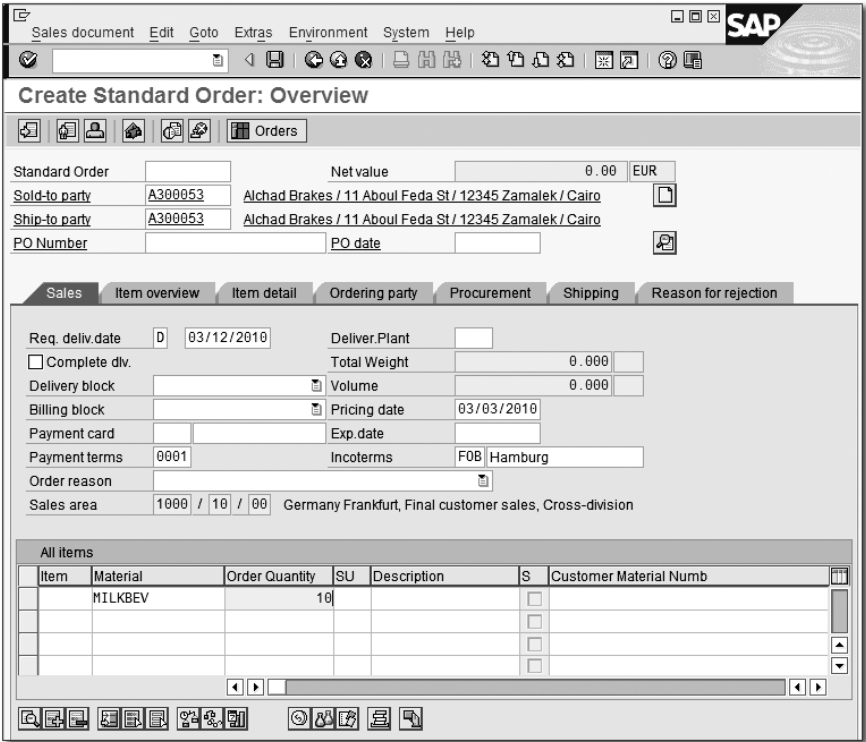

Figure 3.17 Create Standard Order Overview – Material Determination Entry
- 2. Enter the number for the customer sold-to that you've maintained in your material determination master data, as you can see in Figure 3.17, and press `Enter` to determine the other partners.
- 3. In the line item MATERIAL column, type the material determination record name text. Figure 3.17 provides an example of how we use this record (for more details on material determination records, revisit Chapter 2). The system will determine the pricing for the item.